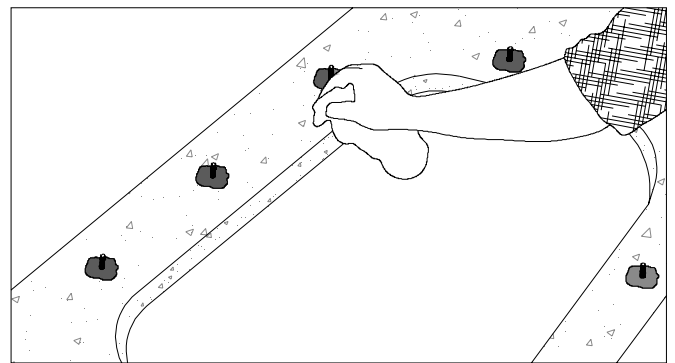

Figure 6B
- Clean under side of countertop around sink perimeter with a nonabrasive cleaner. (FIG. 6B)